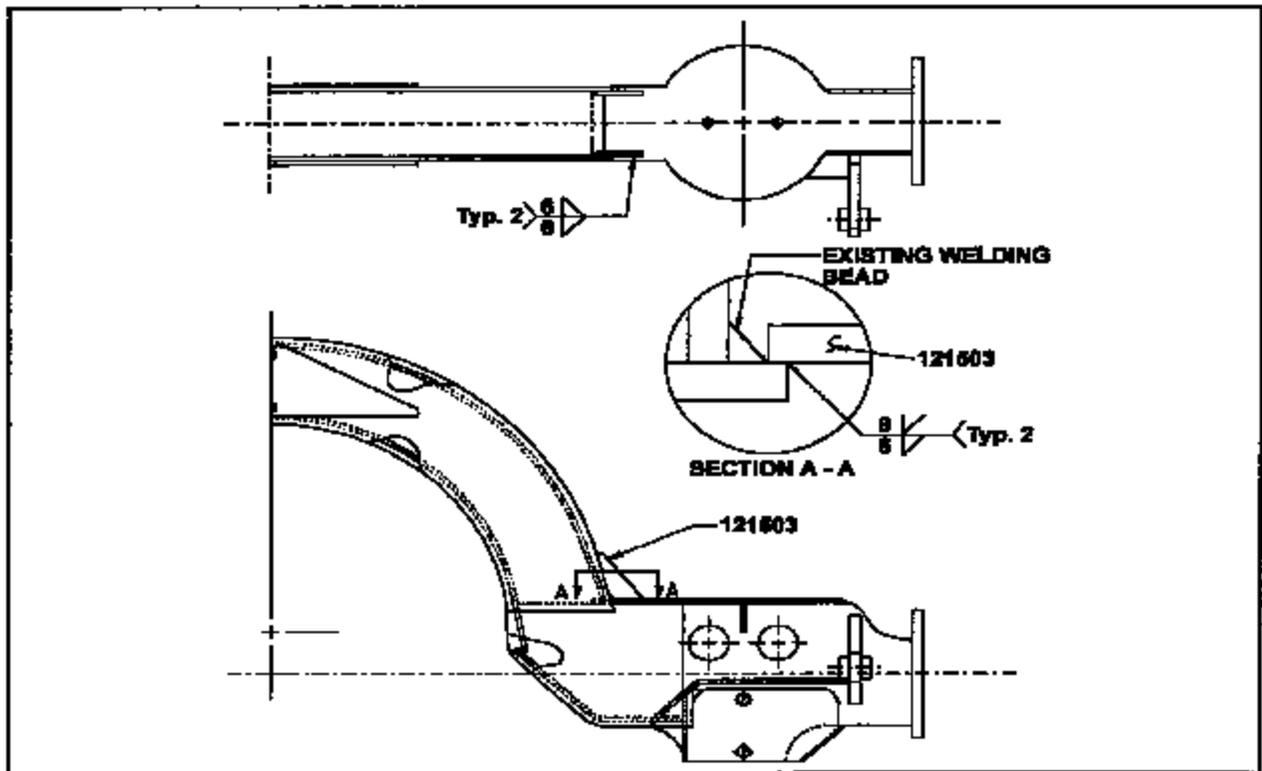

FIGURE 1
2. Remove asphalt base undercoating (Gravel Guard 3M) and any rust present near the risk or affected area, the risk areas are the joints between axle arch and sub-assemblies (refer to figure 1).
3. Check if tag axle is cracked, check if cracks are superficial by grinding the affected area to make the cracks disappear. If cracks are only superficial, chip off or grind to bare metal then reweld crack referring to paragraph: Steel - Steel Welding. Weld reinforcement parts referring to figure 1 welding specifications
4. If no cracks are present on tag axle, weld reinforcement parts referring to figure 1 welding specifications.
5. Weld reinforcement parts as per figure 1 and refer to welding specifications indicated in paragraph: **Steel – Steel Welding:**